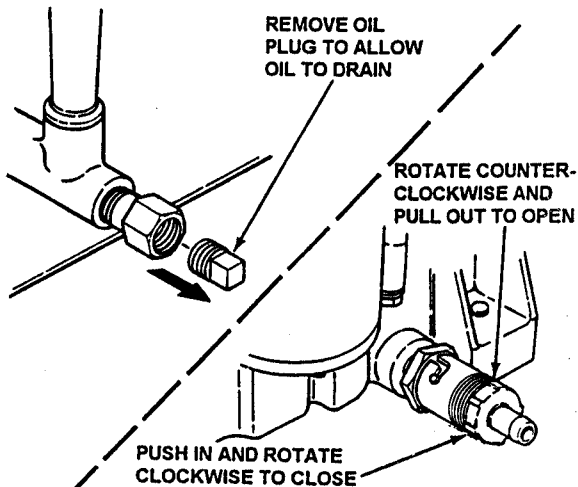

FIGURE 3.1
- Place a 2 quart minimum capacity container under the end of the oil drain. Open oil drain. See Figure 3.1 for oil drain types used on Rear Engine Riders.
d. After all the oil has drained, close the drain and wipe up any oil that may have spilled. See Figure 3.1.